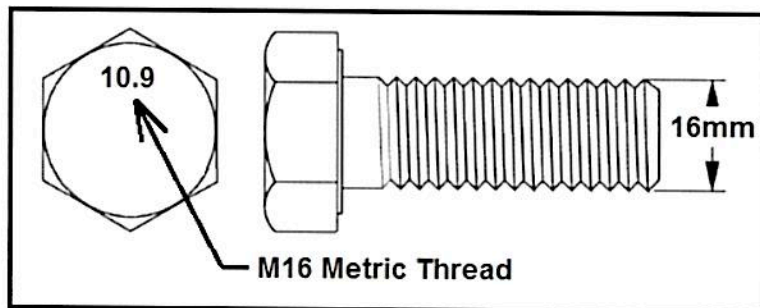

Fig.3 M16 Metric Fastener
4. An M16 metric fastener can be identified by the marking on the bolt head as indicated in Fig.3.